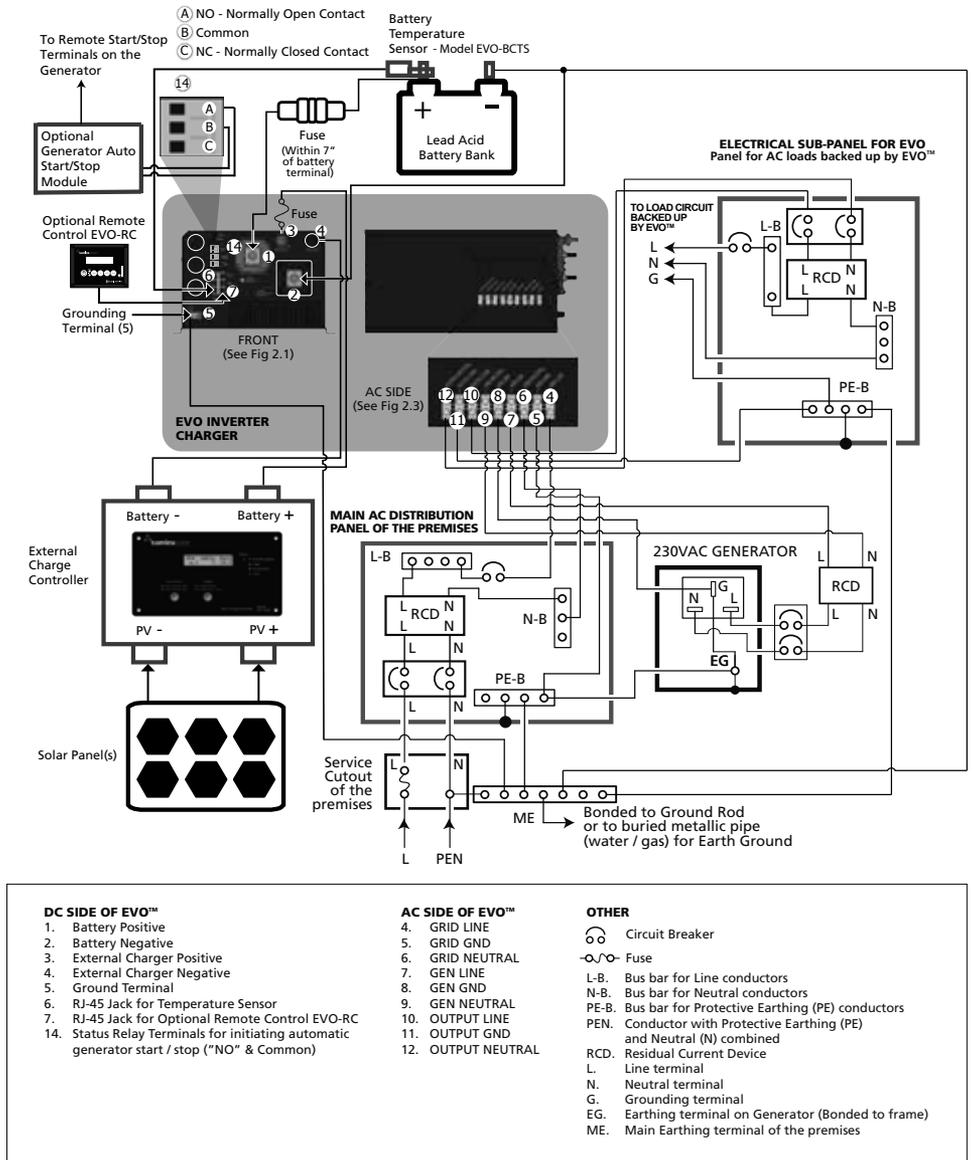

Fig 1 Typical Shore Based Installation for TN-C-S / Protective Multiple Earthing (PME) Distribution System
- Typical Shore Based Installation: Fig 1